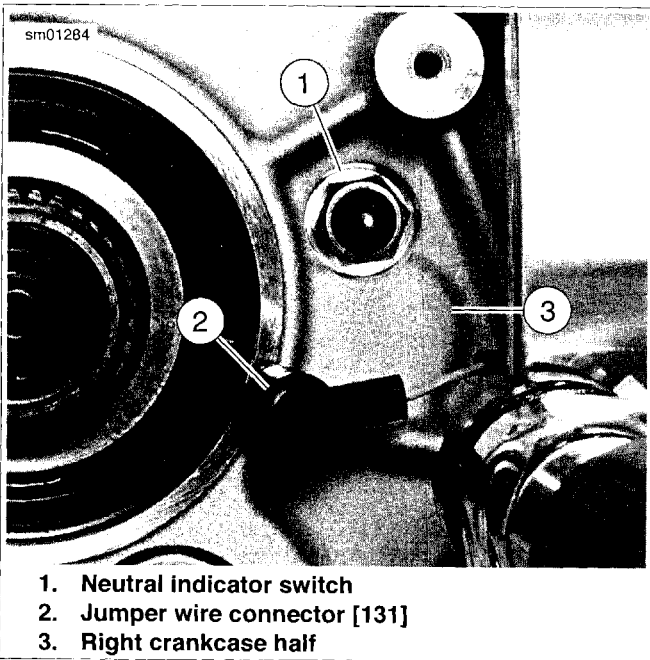

Figure 6-94. Neutral Indicator Switch: All Models (XL Shown)
5. See Figure 6-94. Unplug jumper wire connector (2) from neutral indicator switch (1). Remove switch with washer from right crankcase half (3).